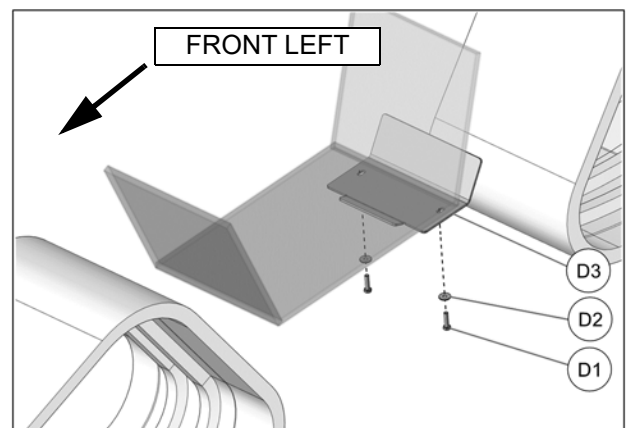
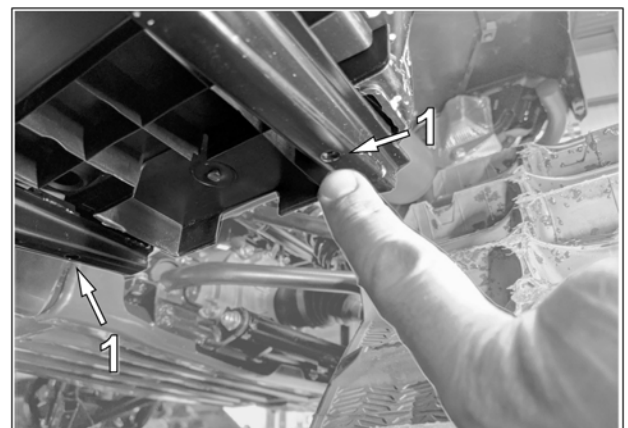
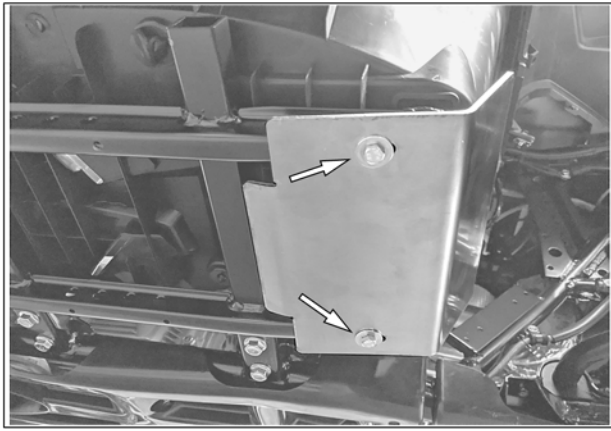

Fig. 23
Fig. 24
Fig. 25
- Position footrest protector plate (D3) under footrest - rear side of vehicle. Use M6 threaded holes (1) already present in frame to secure protector plate with provided hardware (D1-D2). See Fig. 23, Fig. 24 and Fig. 25